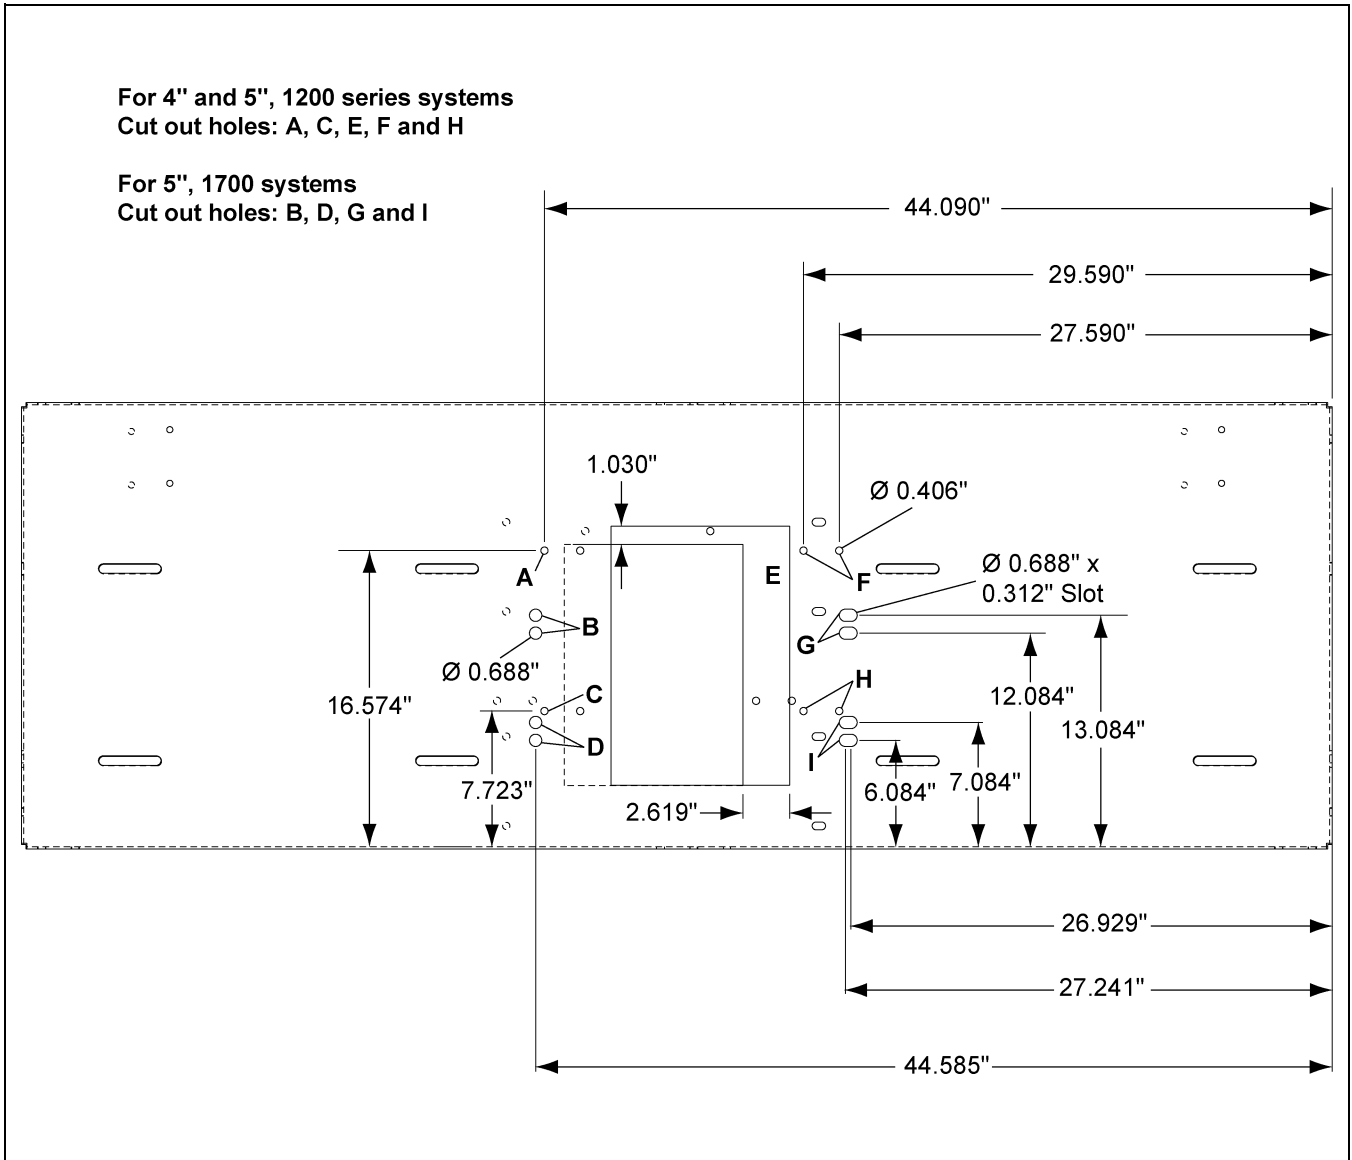

Figure 6
2. Cut out section E on attached in Figure 6 on Page 6 for twin drive systems.
3. Drill holes marked A, C, F and H marked in Figure 6 on Page 6.